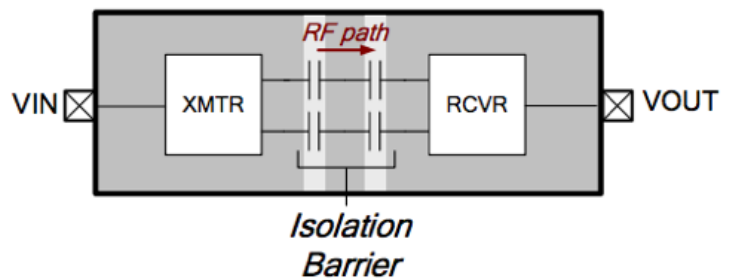
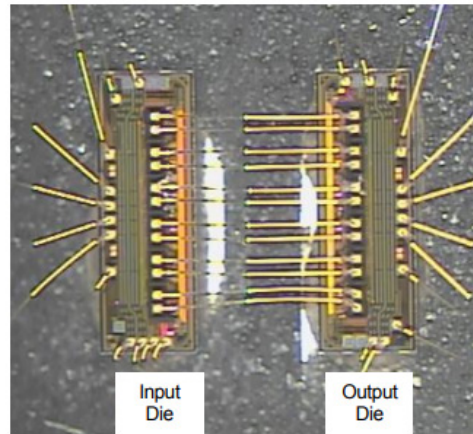

Figure 1B: CMOS digital isolator
Figure 2B: Decapsulated 6-Channel CMOS Digital Isolator
The basic operating principle of the CMOS digital isolator is somewhat analogous to that of an optocoupler, with the exception that output logic state control is determined by the presence or absence of a high-frequency (HF) carrier instead of light. Figure 2B shows the die configuration and bonding of a 150 Mbps, six-channel CMOS digital isolator.
The base isolator die is designed and fabricated such that wire-bonding two identical die together (Figure 2B) forms a transmitter and receiver separated by a differential capacitive isolation barrier as depicted in Figure 1B. The isolator output state is determined by either an input logic level or an input current (similar to the optocoupler), depending on the part number.